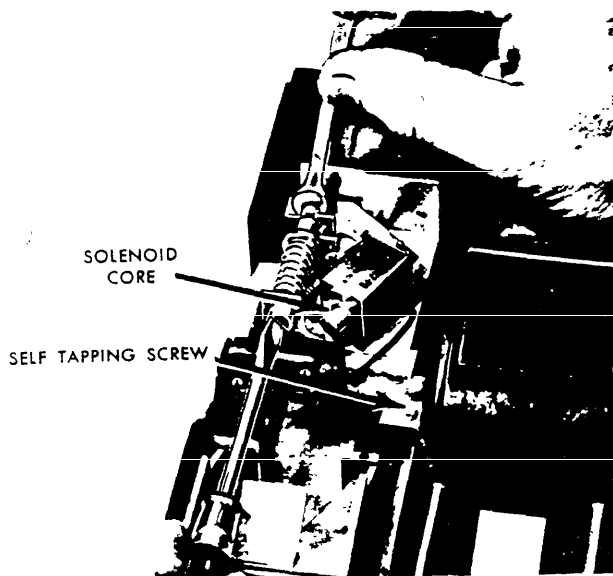

Fig. 8. (Right pole installation shown)
**STEP 6** Fasten accessory firmly in place using 1" self tapping screw and lockwasher supplied. See Fig. 8.
1. With circuit breaker in ON position and accessories de-energized, unlatch shunt trip by manually pushing core through solenoid, the undervoltage release will be unlatched. Turn slotted end of plunger while grasping other end with wrench as shown in Fig. 8. Turn screw driver counter-clockwise until breaker trips, then continue two (2) additional turns.
3. Being careful to keep hands and fingers clear of breaker contact arms, depress solenoid core completely into solenoid (see Fig. 8). Breaker should trip, if not, retrace Step 8.